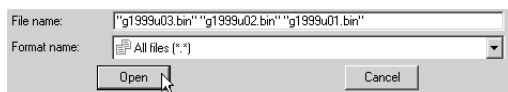

Figure 3-15. Open window
3. Select the desired *.bin file in *Open* dialog box and click **Open** (Figure 3-15).